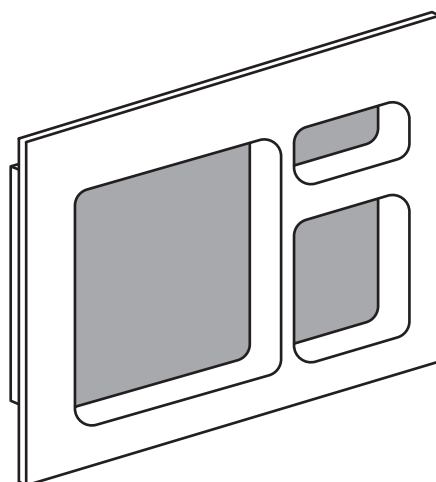

Figure 9
- (b) Figure 9 shows the internal fixing case for the alarm system that has been vacuum formed from high impact polystyrene (HIPS).